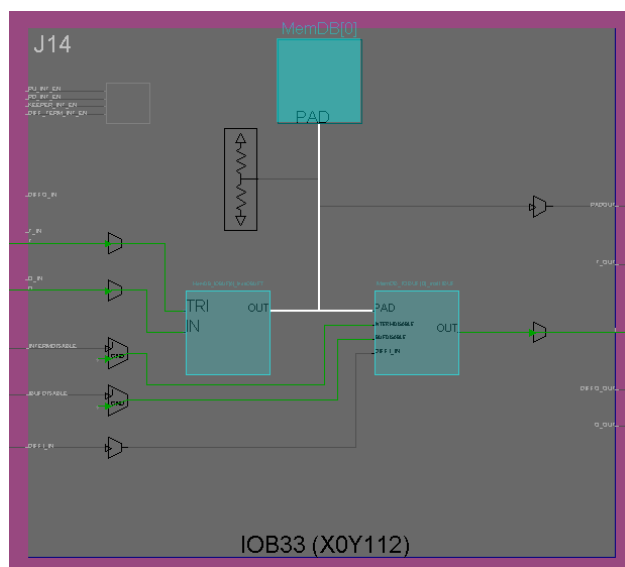

Figure 11: An example of net (highlighted in white) that can be driven by more than once source.
- Most `CellNets` have a single source pin and multiple sink pins (referred to as the “fanout” of the net). When routing a net that fits this description, only one `RouteTree` needs to be specified. However, there are two noticeable exceptions to the common case: (1) static nets (described in the bullet point above) and (2) nets with multiple drivers (involving IO pins). In a Xilinx FPGA, this is most often seen in IOB pads. An example is shown in Figure 11. The highlighted net can be driven by both the OBUF output, and from an external source. `RapidSmith 2` supports nets with multiple drivers. The function call `CellNet.getAllSources()` can be used to retrieve all possible source `CellPins` of a net.